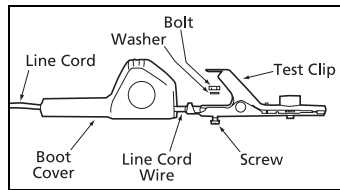

Figure 6. Attaching the Test Clip
- 8 Slide black boot cover onto black line cord (Figure 6). Repeat step for red line cord.
- 9 Attach black line cord to test clip using washer, screw and nut (Figure 6). Repeat step for red line cord.